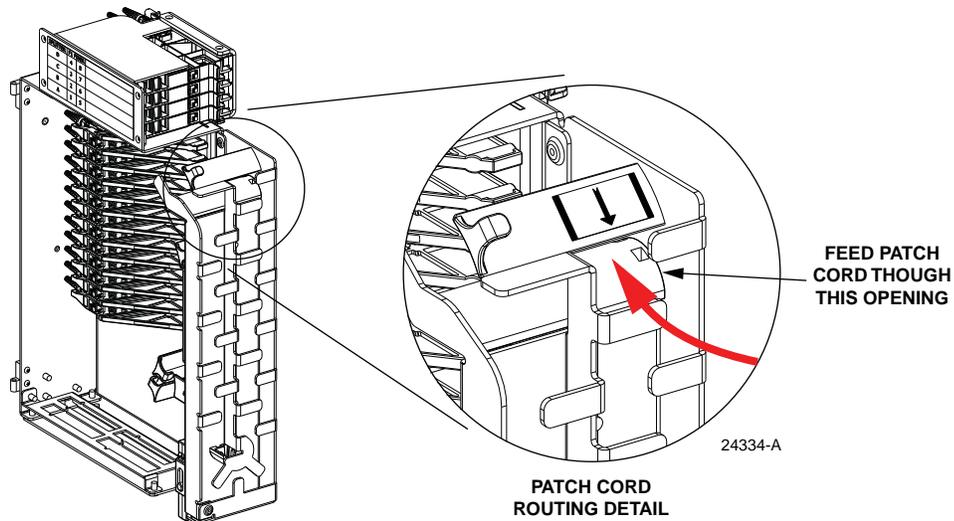

Figure 62. Feed Patch Cord Connector Through Swing Frame
6. Feed one of the patch cord's two connectors through the opening at the top right side of the swingframe, as shown in Figure 62, and pull through about 1 foot of slack.